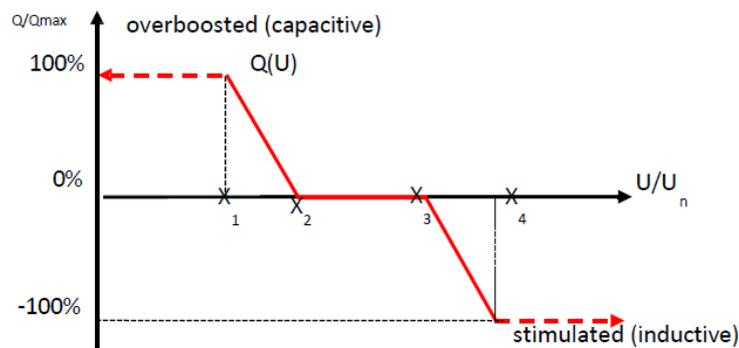

Figure 4.4 Characteristics of the function $Q(U)$
$Q(U)$ function is set according to Figure 4.4 defining model ratio of voltage (U) and reactive power (Q).